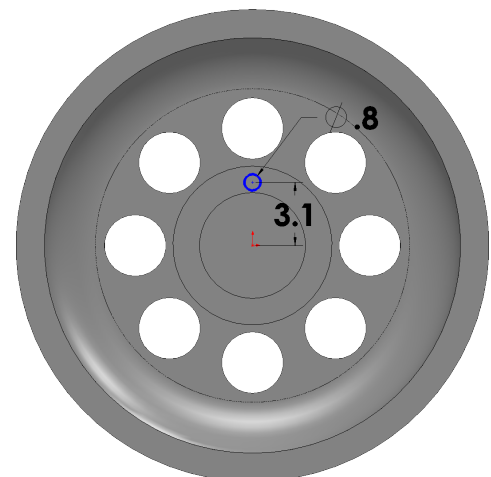

Fig. 24
Step 3. Click **Circle**  (S) on the Sketch toolbar.
Step 4. Sketch a circle above the Origin , **Fig. 24**.
Step 5. Click **Smart Dimension**  (S) on the Sketch toolbar.
Step 6. Add dimensions, **Fig. 24**.